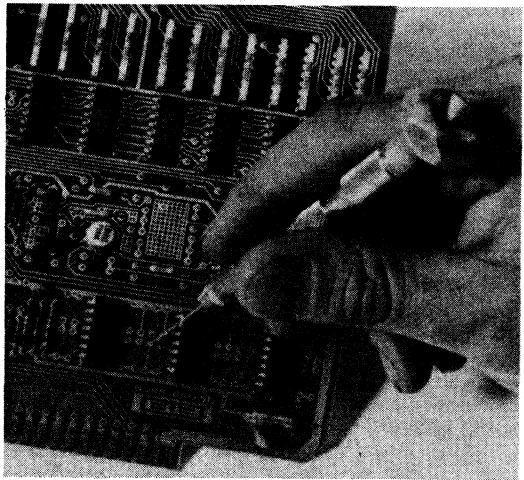

FIGURE 5. Drilling Out Plated-Through Holes.
The most significant byte of the address (90) is set by plated-through hole jumpers W1\* to W8\*. The address may be changed by drilling out plated-through hole jumpers with a # 54 (0.055"/1.4mm) drill bit. Exercise caution to prevent damage to the board. Carefully remove any metal particles deposited on the board's surface. See Figure 5.